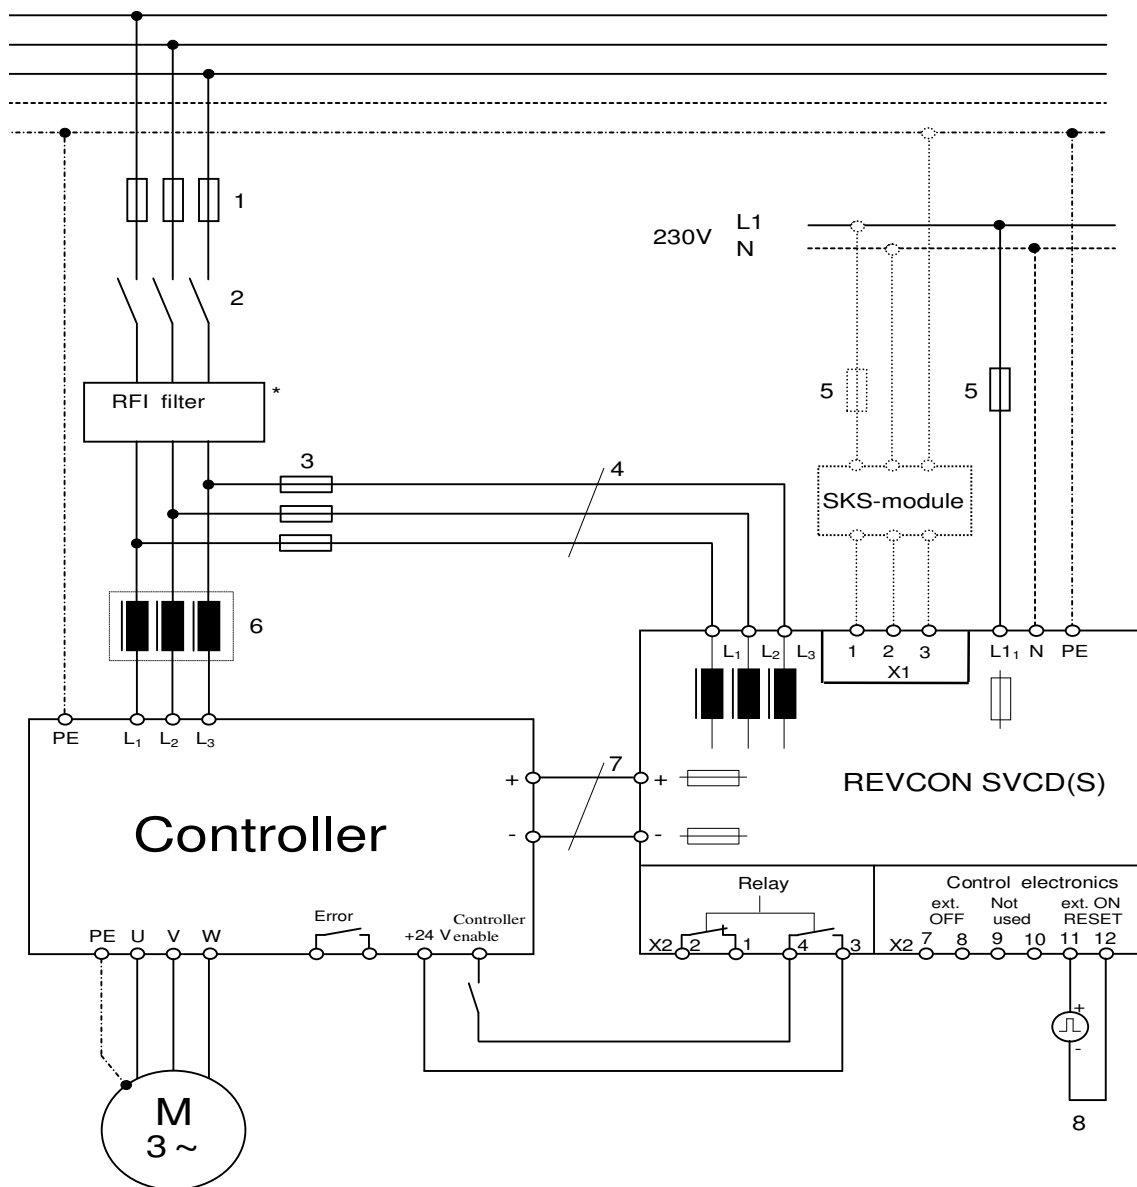

Figure 4.4.1.1.1 Wiring schematic of the power feedback unit *REVCON®* SVCD(S) and one or more controllers
**Legend for figure 4.4.1.1.1 (REVCON® SVCD(S))**